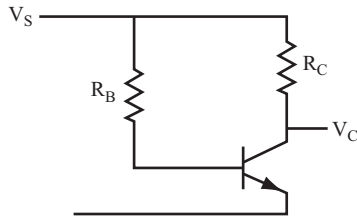

FIGURE 12.4
- 26.** Using the circuit shown in Figure 12.4, find the value of R_B required to turn the transistor ON if $V_s = 14$ volts, $R_C = 10$ k Ω , and $\beta = 50$. _____
27. Again, using the circuit shown in Figure 12.4, find the value of R_B required to turn the transistor ON if $V_S = 5$ volts, $R_C = 4.7 \text{ k}\Omega$, and $\beta = 100$. _____